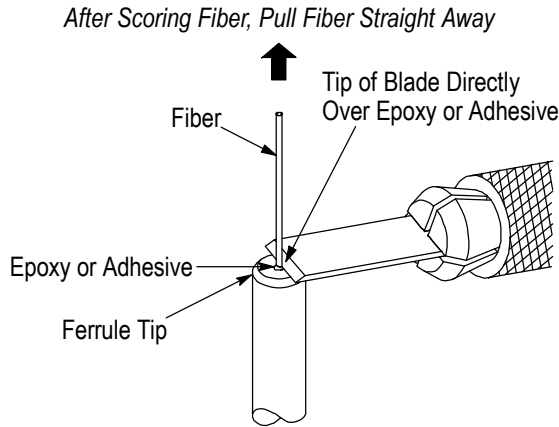

Figure 12
3. Place the blade of the scribe tool directly above the epoxy or adhesive. **DO NOT** allow the blade to make contact with the epoxy or adhesive. Refer to Figure 12.